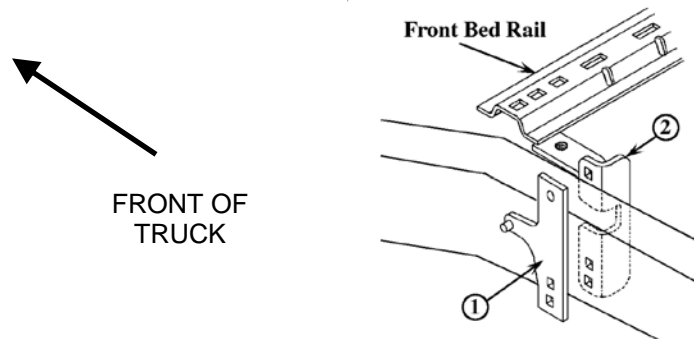

Figure 4
- Position the left and right front outer brackets #1 and #3 against their respective truck frames so that the pin in each bracket aligns with the existing hole in the side of the vehicle frame. See Figure 4.